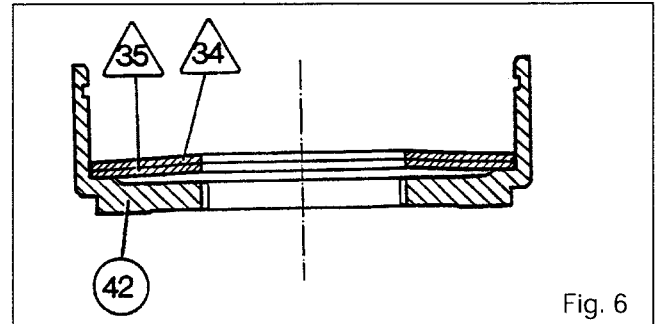

Fig. 6
37. Position the Belleville washers /35\ and /34\ in the bell (42) (see Fig. 6).
38. Lubricate and fit the O-ring (33) on the hub (40).
39. Position the hub (40) in the bell (42) so that it bears against the Belleville washers.
40. Fit the discs (36), aligning the lugs. Fit the backing plates (37). Install the cover (38).